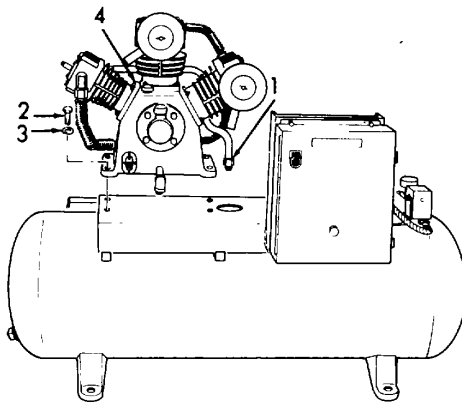

Figure 3-18. Air Compressor, Installation.
- (1) Inspect for missing or damaged hardware.
- (2) Inspect air compressor for damage.
- e. Installation. (Refer to Figure 3-18).